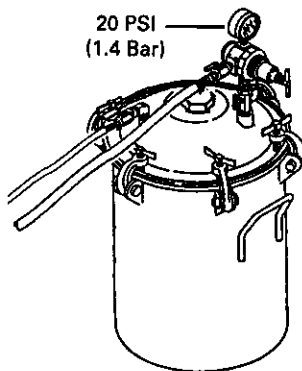

Figure 2 Adhesive Tank
1. Adjust adhesive pressure to approximately 20 PSI (1.4 Bar). Open ball valve on tank. Pull trigger on gun, allowing adhesive to fill the line, until all air pockets are removed (Figure 2).